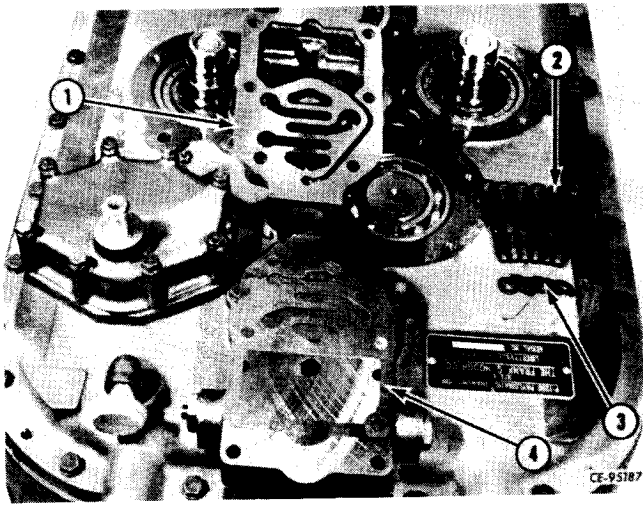

Figure 4-69
Position new directional selector valve gasket (4, Fig. 4-69) on neutral knockdown valve. Install valve (1) and secure with cap screws (2) and lock washers (3). Tighten all cap screws (neutral knockdown valve included) to the recommended torque (refer to "SPECIAL TORQUES").